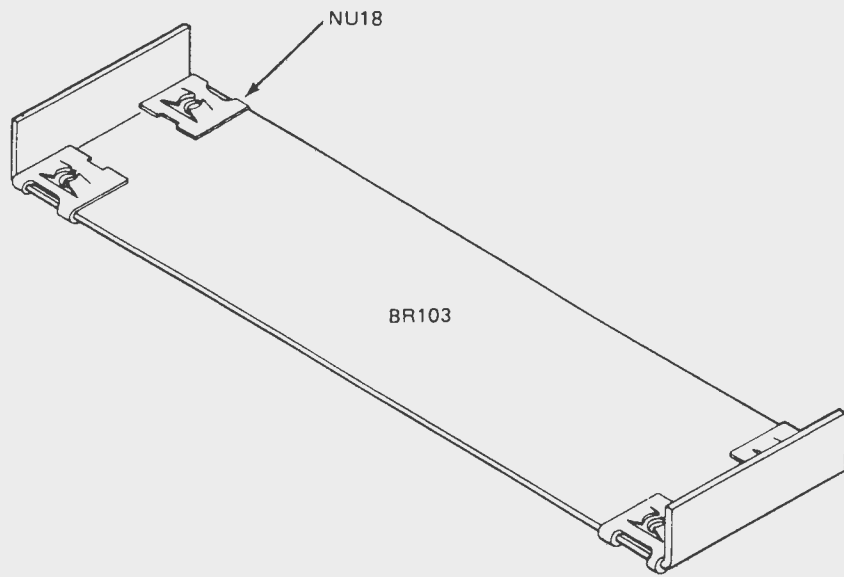

Fig. 17. The alignment bracket with four Tinnerman nuts in place.
(11) Now locate the two cabinet alignment brackets (BR103) and mount four Tinnerman nuts on the brackets over the four holes as shown in Fig.17. The raised portion of the Tinnerman nut goes on the inside of the U-shaped brackets ()